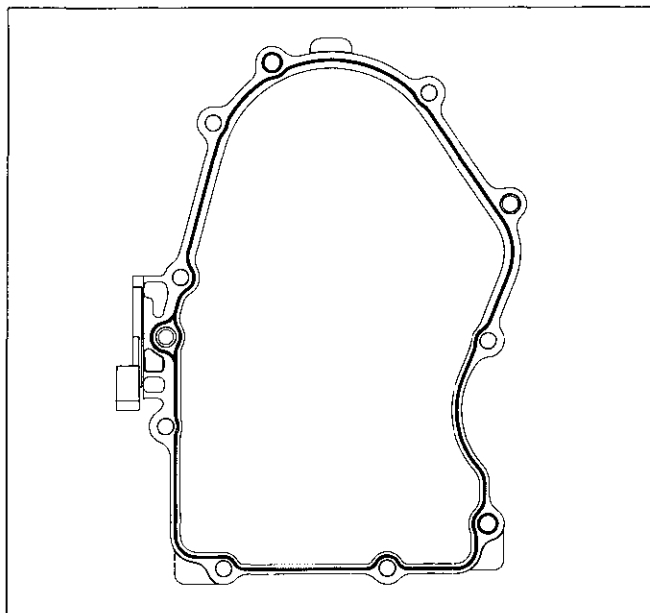

Figure 11-16. Closure Plate Sealant Pattern.
3. Apply a 1/16" bead of sealant to the sealing surface of the closure plate. See Figure 11-16 for sealant pattern.